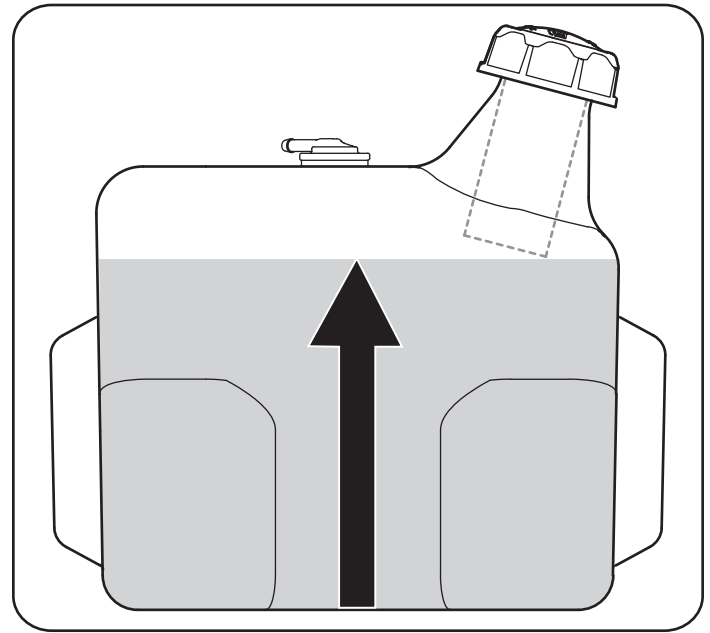

Figure 10
2. Fill the fuel tank with gasoline. Use only clean, fresh (no more than 30 days old), unleaded gasoline. Fill tank to no more than  $\frac{1}{2}$ " below bottom of filler neck to allow space for fuel expansion. See Figure 10.
**IMPORTANT:** Do not overfill the tank. Fill tank to no more than  $\frac{1}{2}$ " below bottom of filler neck to allow space for fuel expansion. See Figure 10.